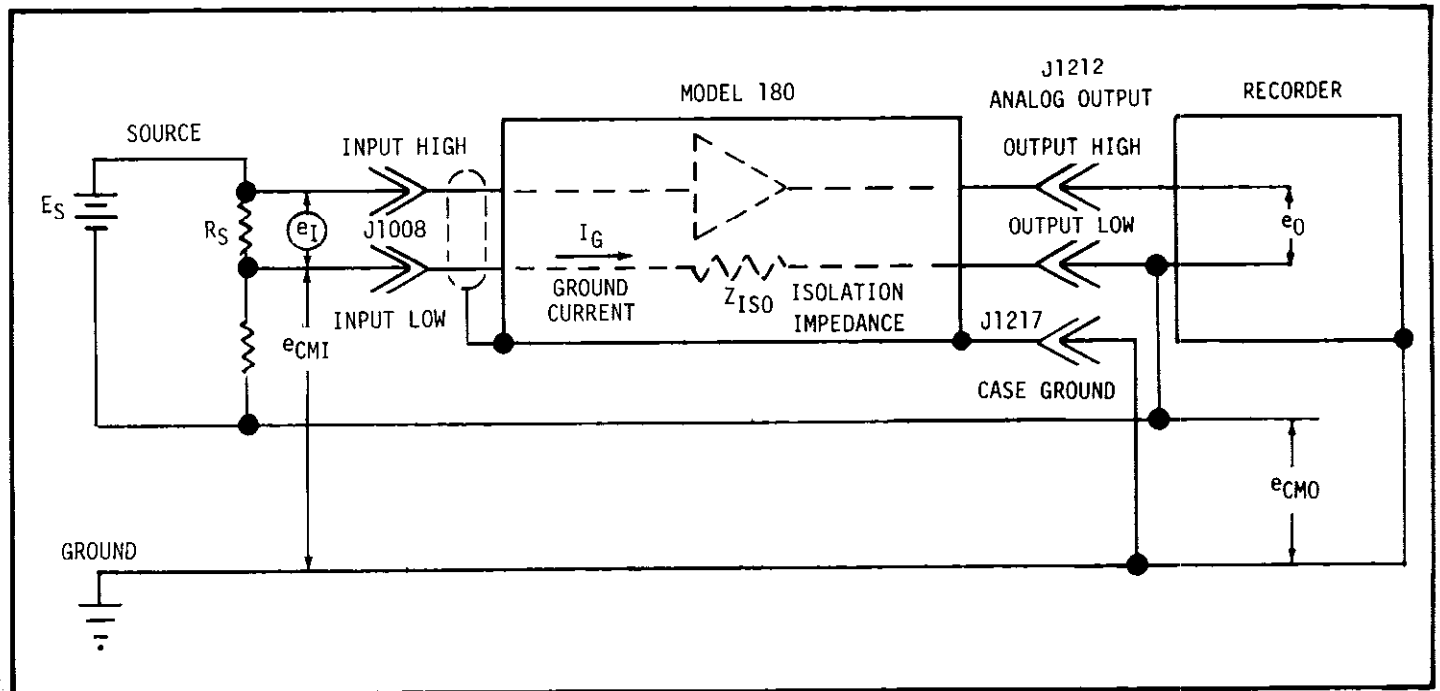

FIGURE 4. Input-Output Connections.
e. Grounding. The special design of the Model 180 eliminates grounding problems in making system connections. Since the input low is isolated from output low by a high impedance the typical current through the system ground (I_G) is small compared to the signal of interest. Thus I_G is a function of the ground loop impedance Z_{ISO} as shown in Figure 4.